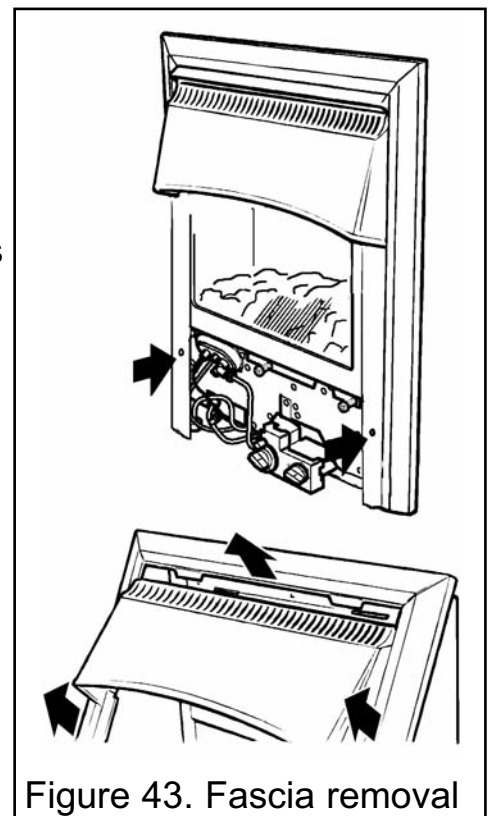

Figure 43. Fascia removal
- Raise the fascia to allow the retaining lugs at the top to clear the slots in the convection box hood and then lift clear (See figure 43). Be careful not trap the wiring loom when lifting clear.